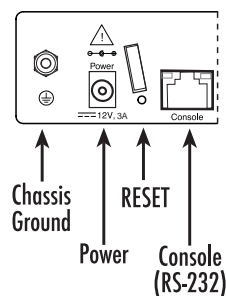

Figure 7. Power connector location on rear panel
1. Insert the barrel type connector end of the AC power cord into the *12V DC, 1.0A* port (see Figure 7).
5. Verify that the green *Power* LED is lit (see Figure 7).